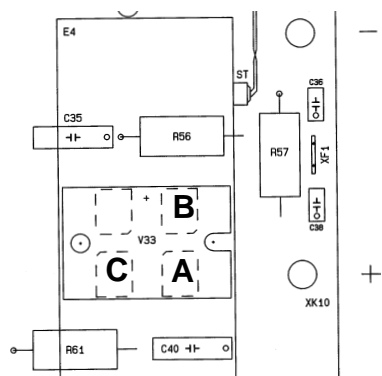

FIG. 5 REF. 1
3. Diodes of the secondary circuit: check points A-B of diode 1 and points A-C of diode 2 (fig. 5).